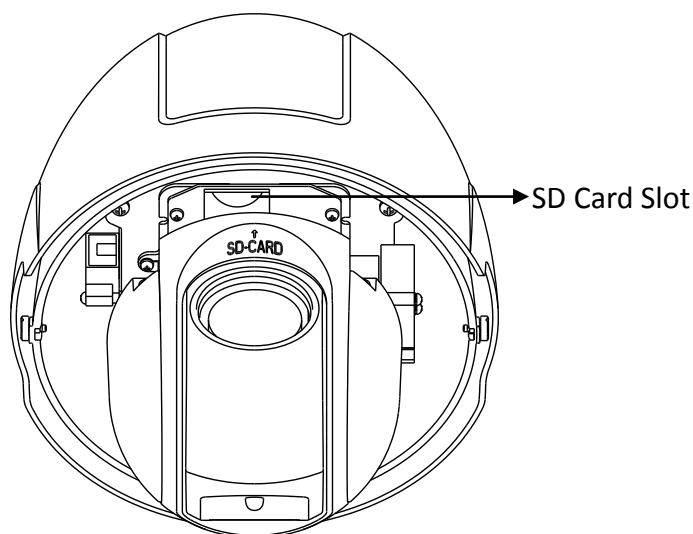

Figure 1-5 SD Card Slot for Network Dome
- The SD card slot of network speed dome is shown in Figure 1-5.